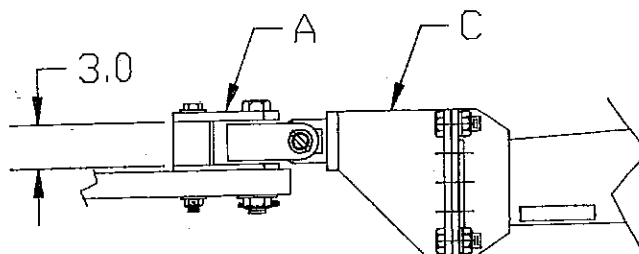

FIGURE 3 - HITCH INSTALLATION
Attach harvester to tractor with yoke weldment (A) and bolts provided. See Figure 3 for proper installation. The existing tractor clevis may be used if a 3" spacing can be maintained. If tractor drawbar mounting hole is larger than 1-1/4", a bushing should be installed.